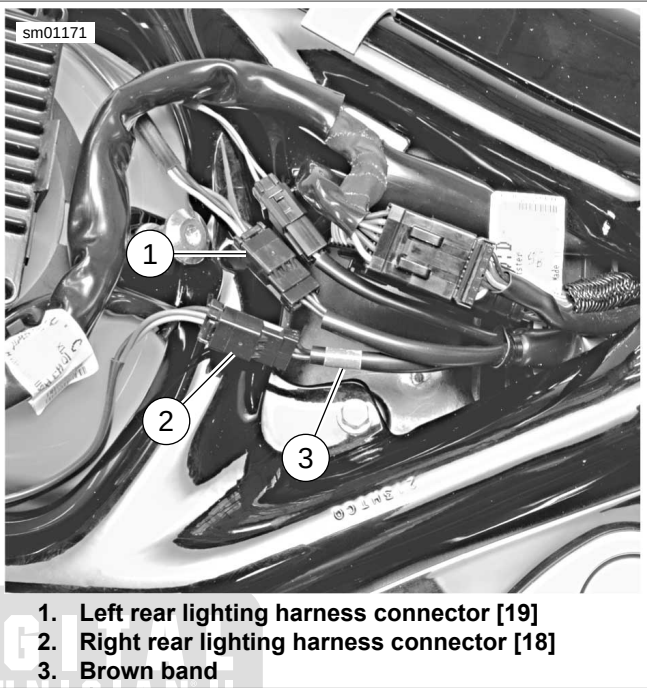

Figure 6-73. Rear Lighting Harness Connectors: XL 883N, XL 1200X/V
6. See Figure 6-73. Unplug rear lighting harness connectors [18], [19] (1, 2).